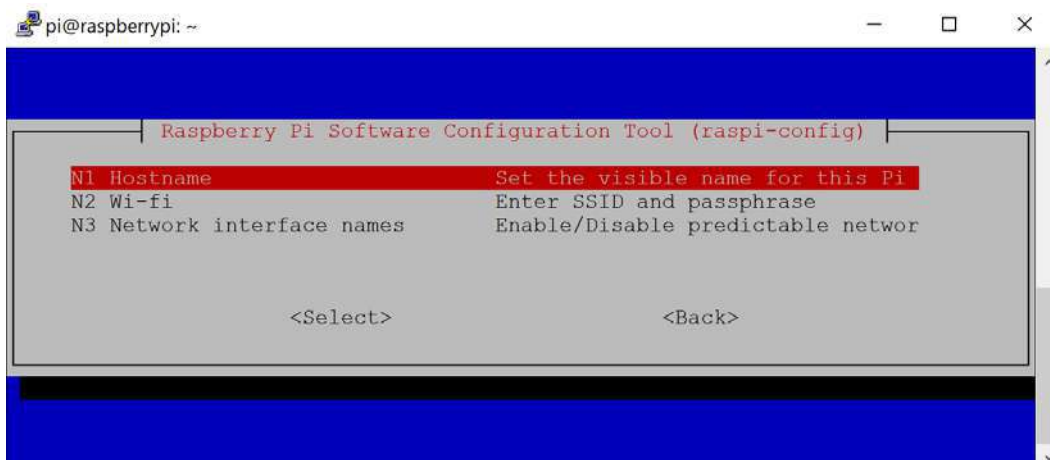

Figure 4.7 – Change the hostname
2. Now select **Hostname** as shown in Figure 4.7: